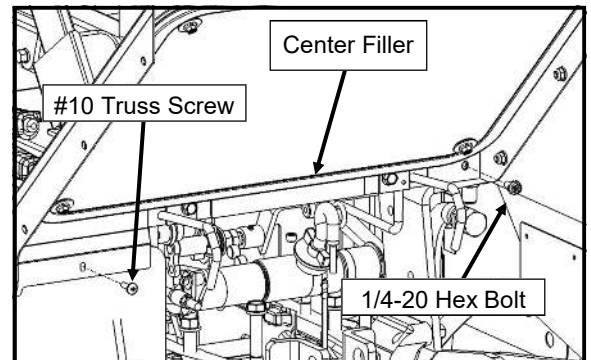

Figure 3.2: Install lower bolts
- 3.2 Attach the assembled rear cab panel to the vehicle seat platform using (1) #10-32 truss head machine screw on the left (driver's) side, and (1) 1/4-20 hex bolt with 1/4" hex nut on the right side (see Figure 3.2).